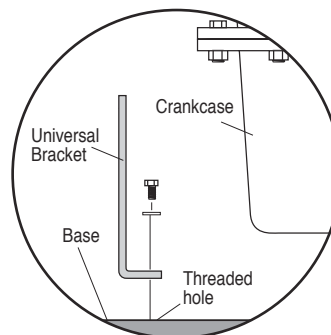

Figure 2A
1. Install the universal bracket to the base as shown in Figure 2A using two flat washers and two 5/16 inch dia. bolts or others as necessary.